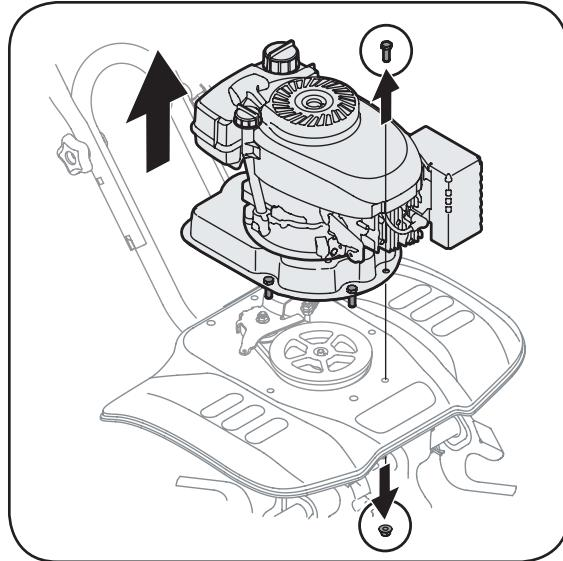

Figure 6-1: Remove engine and frame to gain access to the belt.
- Remove the frame and engine by removing the six screws and lock nuts holding the engine and frame to the shield, Figure 6-1.